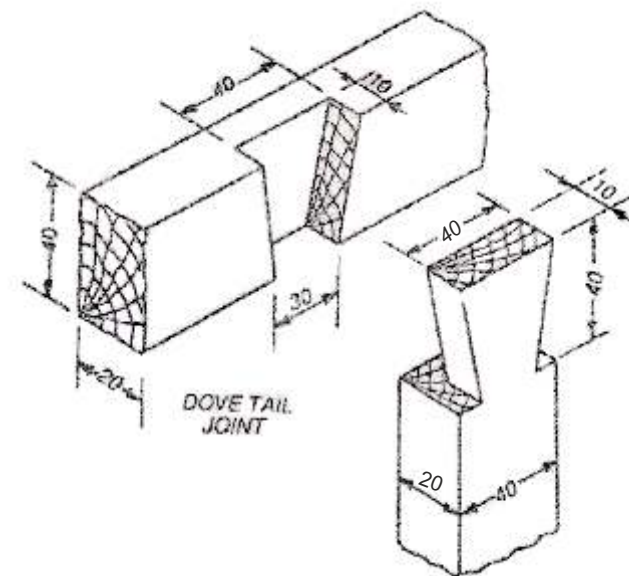

Fig.1
- Q.3 Details drawing of dovetail bridle joint is shown in fig. 1. Draw the following assemble views: